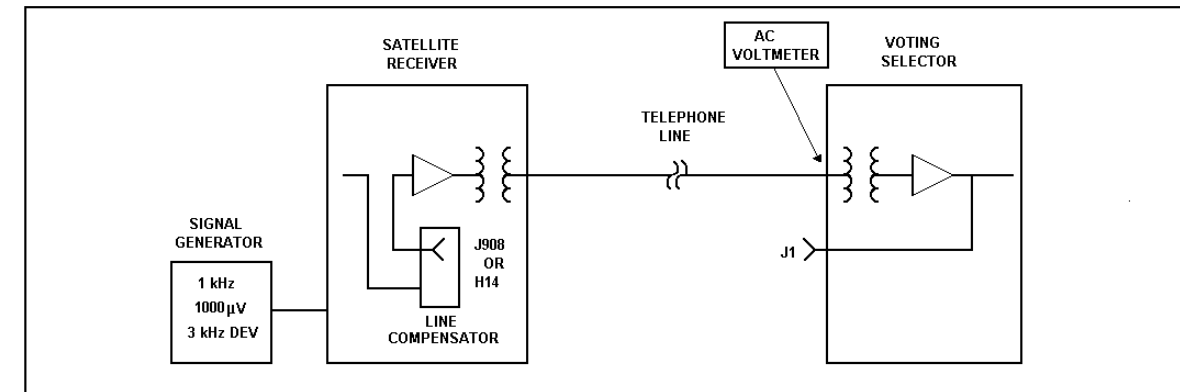

Figure 1 - Test Set-up Diagram
R12 in the line compensator is used to set the 3000 Hz level. R19 is used to set the 300 Hz level. A Test Set-up Diagram is shown in Figure 1.
1. At the Satellite Receiver, apply a 1000 millivolt, 1 kHz signal with 3 kHz deviation from the signal generator to the receiver as shown in Figure 1. Adjust LINE OUTPUT potentiometer R936 on Auxiliary Receiver System Board for a reading of 0 dBm.